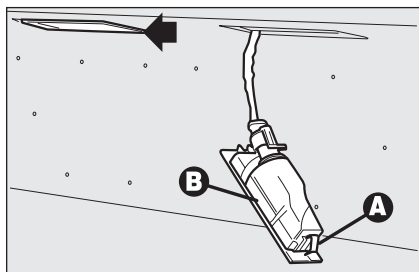

fig. 36
- operate with a flat blade screwdriver protected by a soft cloth on device **A-fig. 36** to remove the light unit **B**;